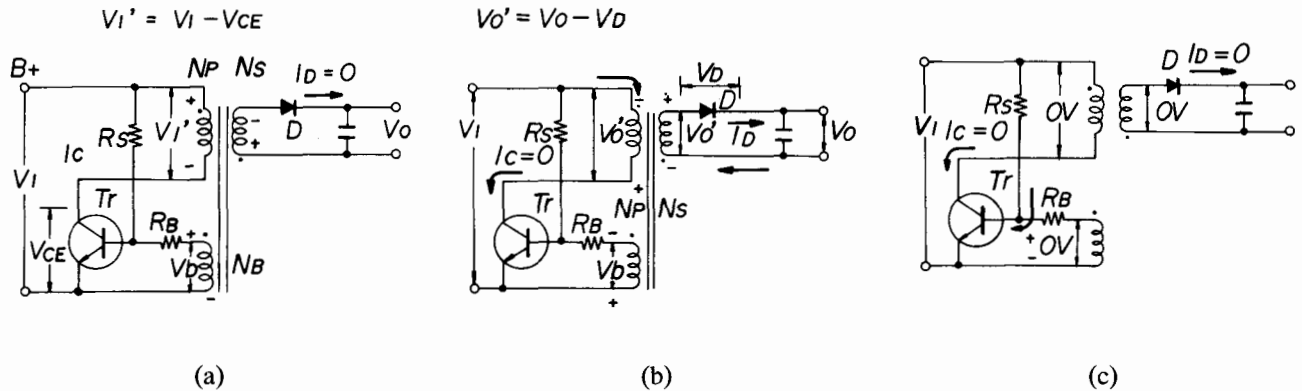

Figure 4-47. R.C.C (Ringing Choke Converter)
Figure 4-47 shows the principle of the circuit.
- The Block operates like a Boot-up register  $R_s$  in Figure 4-47. The Block is made up of Boot-up circuit, output voltage controller and shut-down circuit, and the block controls  $TR508$  ⑥.
- This switching transistor operates like a transistor in Figure 4-47.